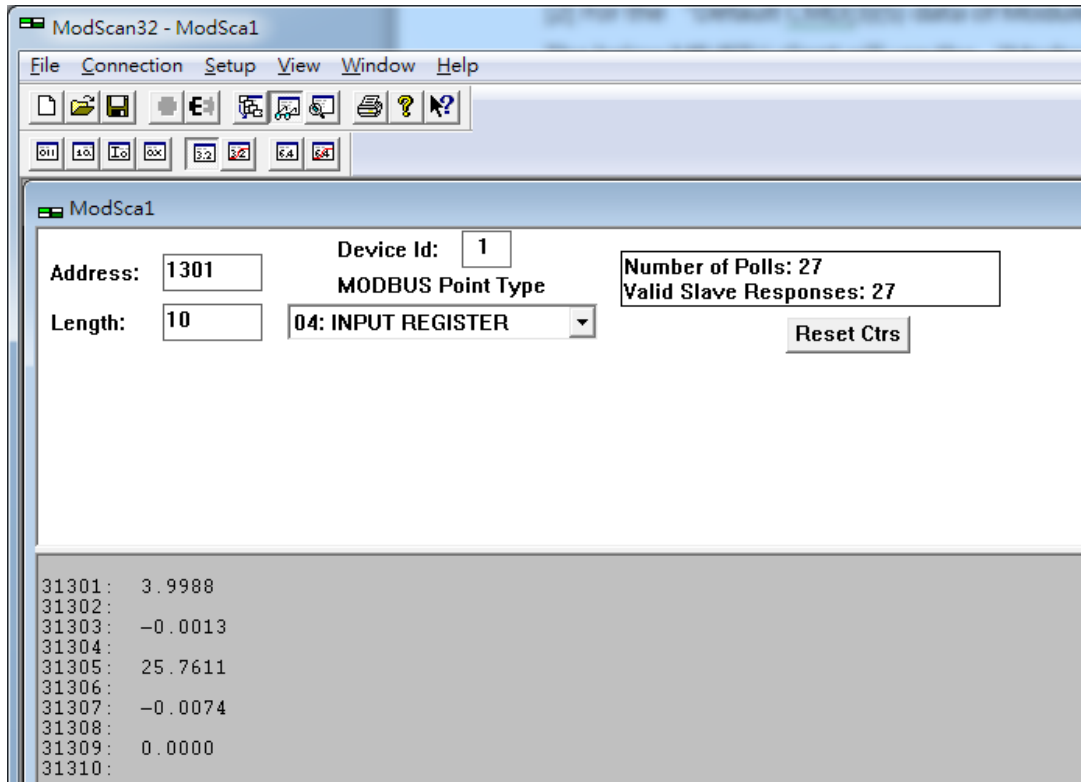

Figure 3-6 The CMD(3) data of HART device
<5> The CMD(3) data of HART device is successfully read, e.g. Figure 3-6